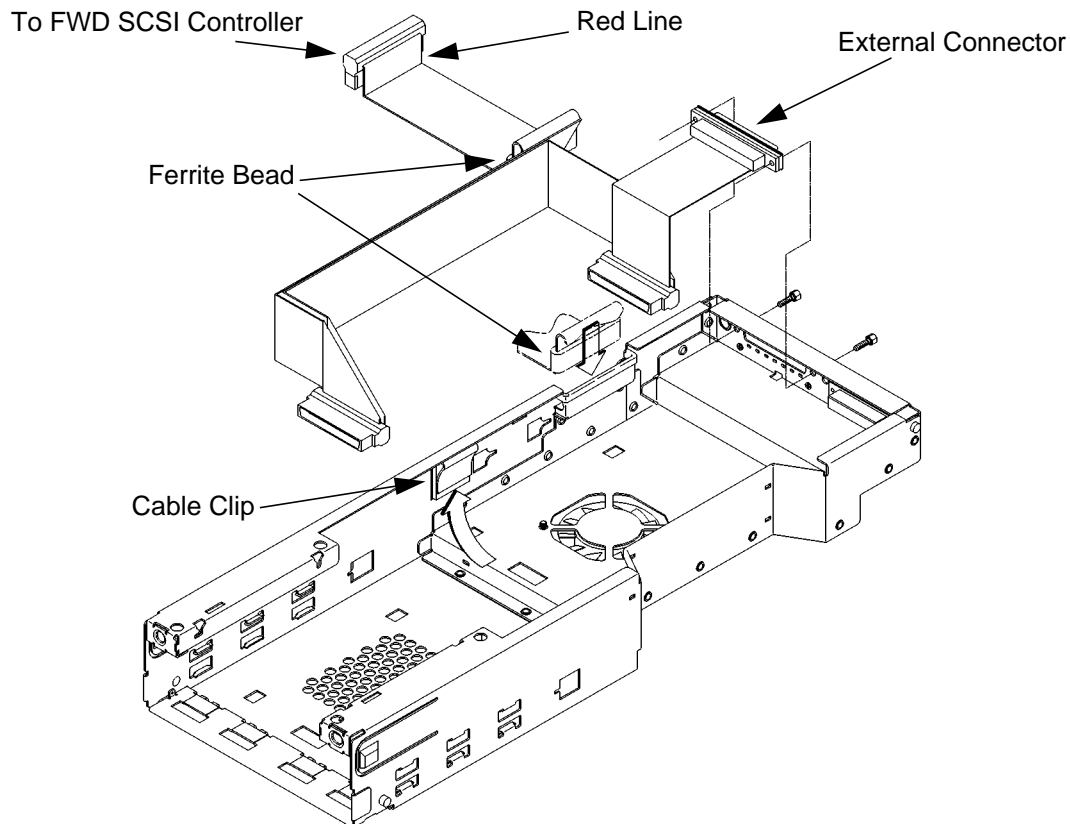

Figure 67 **Installing the FWD SCSI Cable**
- 6 Connect the end of FWD SCSI cable to the FWD SCSI controller making sure that the red line on the cable is toward the rear (away from the fans) of the main tray, as shown in Figure 67.
- 8 Use the two hex standoffs to install the external connector on the end of the FWD SCSI cable into the rear panel of the storage tray, as shown in Figure 67.
- 9 Secure the cable in the cable clip so that it does not interfere with the disk drives, as shown in Figure 67.